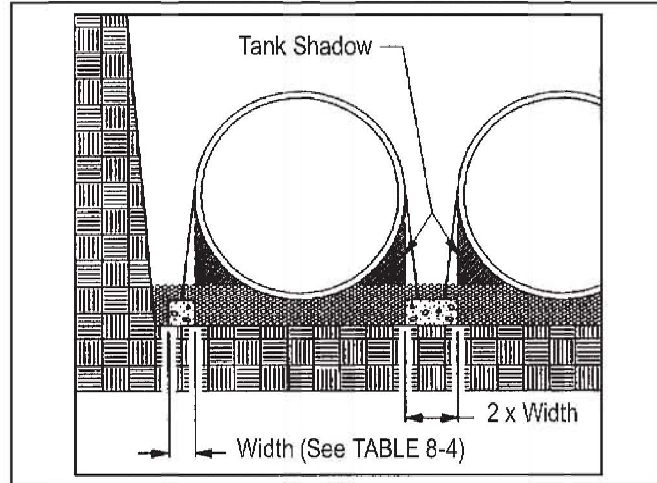

FIGURE 7-2
- 7.5.1.2. Always provide sufficient clearance to allow the deadmen to be set outside of the tank "shadow." See FIGURE 7-2.
- 7.5.2.3. If two or more tanks are installed in the same hole and deadmen are used, the space between the tanks must be equal to or greater than two times the width of the deadmen or deadmen required between the tanks. See FIGURE 7-2 and TABLE 8-4.